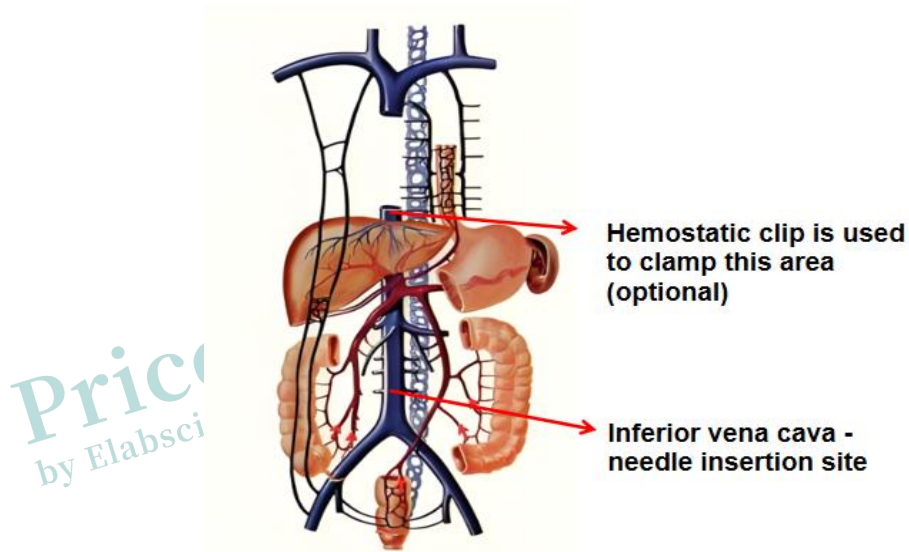

Figure 1. Portal vein system and perfusion needle site
- ① Preparation: Place two clean culture plates in the ultra clean bench. Arrange sterilized scissors and forceps in pairs from left to right on two clean culture plates (Ophthalmic Scissors 1 and Straight Forceps 1, Ophthalmic Scissors 2 and Straight Forceps 2, Curved Forceps 1, Curved Forceps 2, and Curved Forceps 3).
- ② Dissection: First, incise the rat skin along the midline of the abdomen with Ophthalmic Scissors 1. Lift the skin along the incision site with Straight Forceps 1, and use Ophthalmic Scissors 1 to cut open the skin horizontally towards the limbs. Bluntly dissect the skin and subcutaneous tissue toward both sides to expose the superficial muscle layer of the abdominal wall. Continue to use Straight Forceps 1 to pull the skin to both sides and peel it down below the abdomen. Then use Ophthalmic Scissors 2 to incise the diaphragm of the rat abdomen, and use Straight Forceps 2 to gently retract the diaphragm down below the abdomen.
**Note: (Optional Operation) After incising the abdominal diaphragm, proceed to incise the thoracic diaphragm along the upper edge of the liver. Find the inferior vena cava above the liver and clamp the vein at this site with a hemostatic clip (Figure 1). This step allows the subsequent digestive solution to fully flow through the liver tissue and exit through the hepatic portal vein, improving digestion efficiency. If it is not possible to accurately locate the inferior vena cava above the liver and promptly complete the subsequent steps, please ignore this step.**
- ① Peristaltic Pump Perfusion
- a. Lift up the outer lobe of the rat liver using Curved Forceps 1 and push the intestinal tissue to the right, exposing the inferior vena cava and hepatic portal vein of the rat (a pipette tip can be placed under the rat to fully expose the inferior vena cava). Take a perfusion needle (exhaust all air) and connect the inlet end of it to a centrifuge tube or bottle containing Pre-perfusion Solution For Rat Hepatic Parenchymal Cells. The needle should be parallel to the inferior vena cava, with the oblique plane of the needle pointing upwards. Insert it into the inferior vena cava (the injection position is shown in Figure 1), and insert the needle tip above the bifurcation of the blood vessel. Fix the perfusion needle and use other auxiliary materials (such
inferior vena cava (the injection position is shown in Figure 1), and insert the needle tip above the bifurcation of the blood vessel. Fix the perfusion needle and use other auxiliary materials (such as syringe needles) to keep the needle still and avoid puncturing the blood vessel. Gently pull out the needle core, then the blood in the blood vessel can be seen to flow out with the needle core. At this time, the outer tube is left in the blood vessel for perfusion.